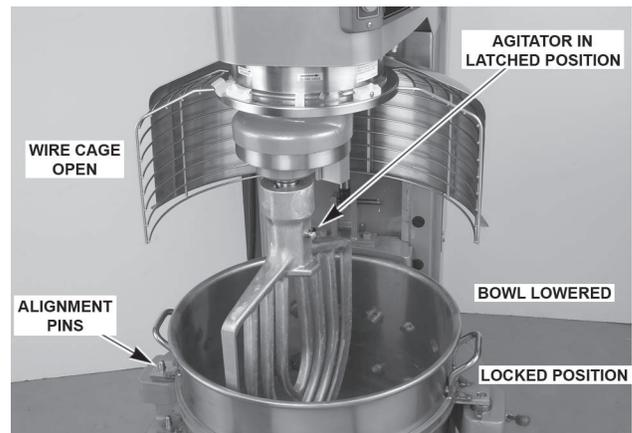

Fig. 9
2. Position the bowl so the alignment pins on the left side of the bowl support (Fig. 9) fit in the holes in the bowl.
3. Swing the bowl into the locked position on bowl support (Fig. 9).